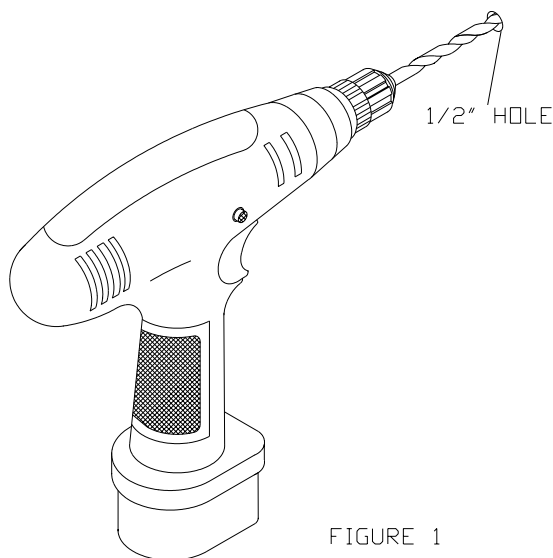

FIGURE 1
12. Drill  $\frac{1}{2}$ " holes into the wall on the marked locations where the wall anchors are to be installed. (FIGURE 1)